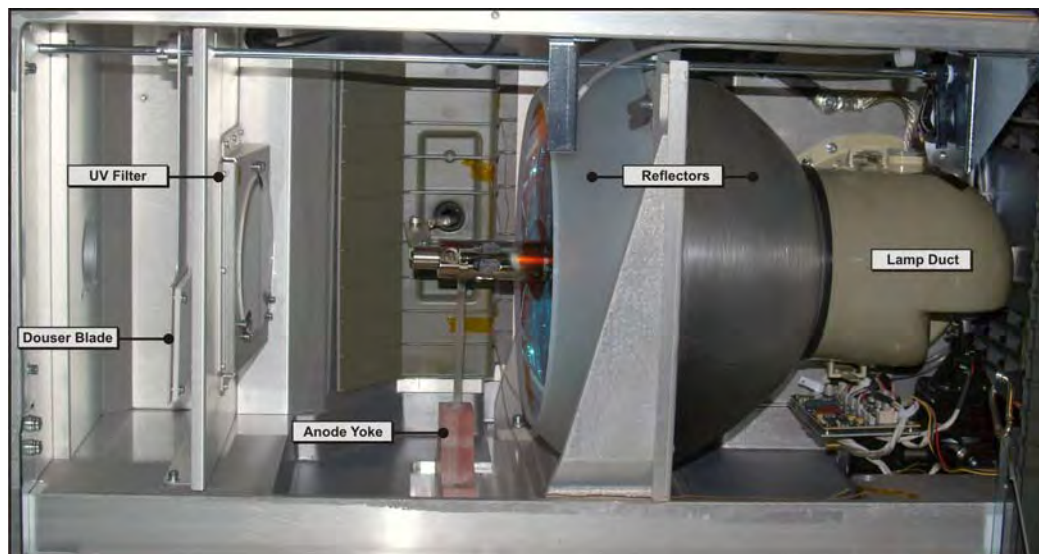

Figure 5-51 Front of Lamp Compartment
3. Using a 5mm hex key, remove the two screws and lock washers from the yoke base. **(Figure 5-51)**